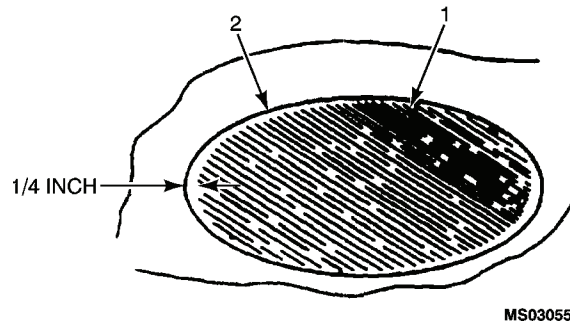

Figure 2-26. Applying Adhesive Mixture Over Buffed Area.
(6) Stir adhesive mixture with tongue depressor (item 5, table 2-11) for approximately 5 minutes. Make certain components are completely blended together.
(7) When performing loose fitting flange and interior loose seam damage repairs — clean, buff, clean and cement loose flange contact surfaces and apply pressure with masking tape for at least a minimum of 12 hours. Remove masking tape and clean area with acetone, using clean cloth (item 16, table 2-11). Wear gloves (item 4, table 2-11).
(8) Carefully apply a thin uniform coat of adhesive mixture (1, figure 2-26) over buffed area (2) to no more than 1/4 inch of O.D. of buffed area. Use a brush (item 6, table 2-11). Smooth surface with gloved fingers wet with acetone (item 3, table 2-11). Remove any excess adhesive from unbuffed area. Use clean cloth (item 16, table 2-11) dampened with acetone (item 3, table 2-11). Wear gloves (item 4, table 2-11).
(h) Carefully apply a uniform (liberal/heavy) coat of repair adhesive (1, figure 2-26) to no more than 1/4 inch of O.D. of buffed area (2). Use a brush (item 6, table 2-11). Smooth surface with gloved fingers wet with acetone (item 3, table 2-11) and remove any excess adhesive from unbuffed area with a clean cloth (item 16, table 2-11) and acetone (item 3, table 2-11). Wear gloves (item 4, table 2-11).
(g) Apply a light coat of adhesive mixture (1, figure 2-26) over buffed repair area to no more than 1/4 inch of O.D. of buffed area (2). Use a brush (item 6, table 2-11). Smooth surface with gloved fingers wet with acetone (item 3, table 2-11) and remove any excess adhesive from unbuffed area. Use clean cloth (item 16, table 2-11) dampened with acetone (item 3, table 2-11). Wear gloves (item 4, table 2-11). Allow to air cure for approximately 30 minutes.